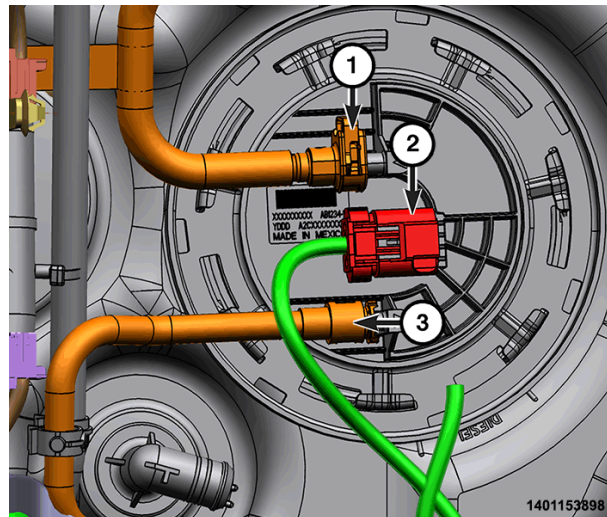

Figure 37 – Fuel Pump Module Connections (Sales Code NFT Shown)
13. Disconnect the fuel pump module wire harness connector (2) (Figure 37).
14. Disconnect the fuel supply (1) and return line (3) quick-connect fitting at the fuel pump module (Figure 37).
20. Connect the fuel supply (1) and return (3) line quick connect fitting to the fuel pump module (Figure 37).
21. Connect the fuel pump module wire harness connector (2) (Figure 37).